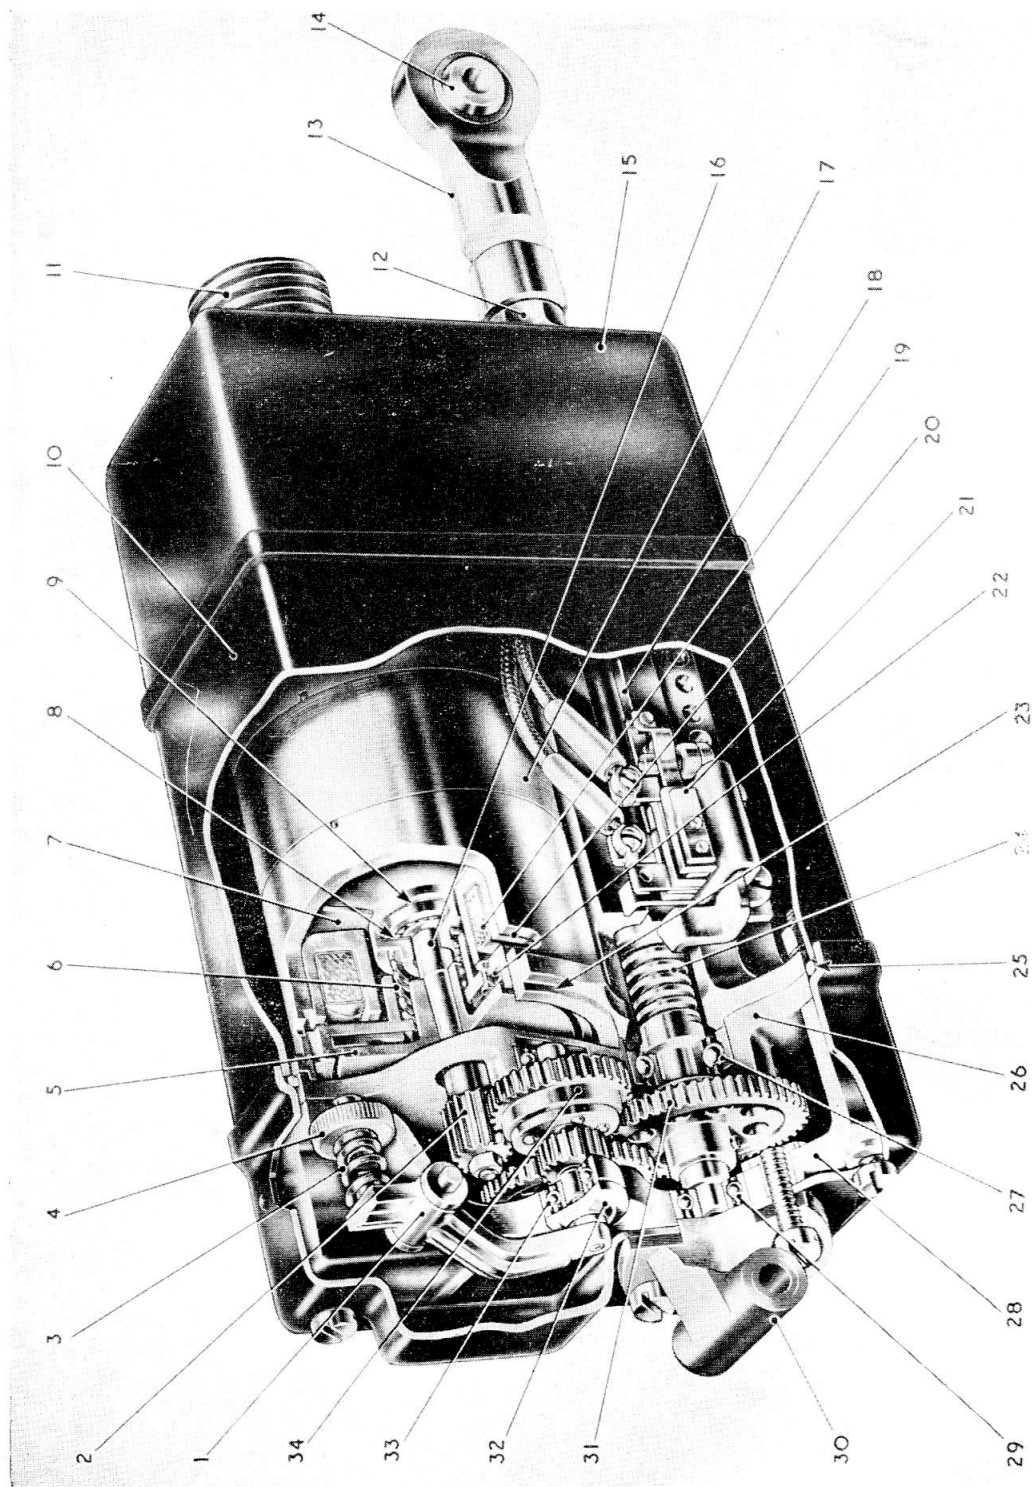

Fig. 6. Sectional view of actuator, Type CZ53681/F
3. A sectional view of the actuator appears in fig. 6. The general construction is as described in the Appendix on Jaguar actuators, to which reference should be made for further information.
KEY TO FIG. 6